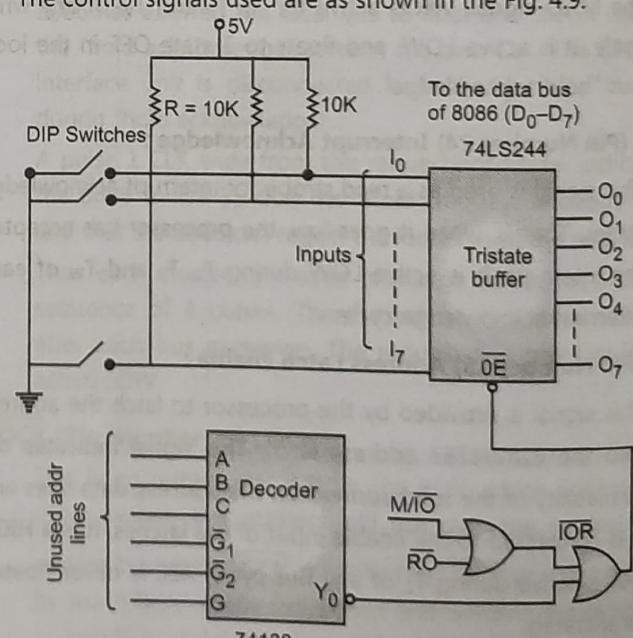

Fig. 4.9
The processor can accept 8-bit or 16-bit data on input port. The interfacing of the 8-bit port and 16-bit port can be as shown in the Fig. 4.9.
- The selection of the device is done by enabling the OE of the buffer connected to the device as shown in Fig. 4.9.
- For interfacing the ports the absolute decoding schemes can be used. In this all remaining address lines can be used for decoding as shown in the Fig. 4.9.
- The control signals used are as shown in the Fig. 4.9.